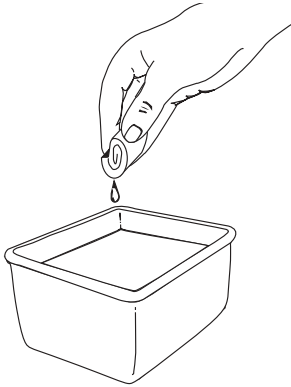

Fig. 57
3. Wash the filter in detergent and water (Fig. 57). Rinse the filter thoroughly and allow it to dry.